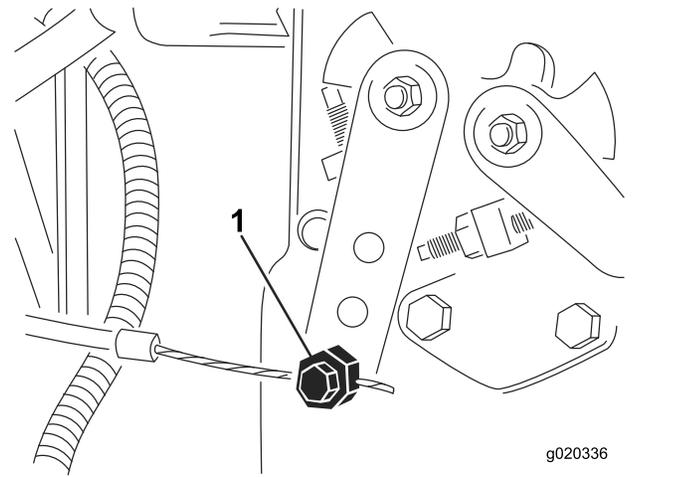

Figure 92
4. Loosen the throttle cable connector on the injection pump lever arm (Figure 92).